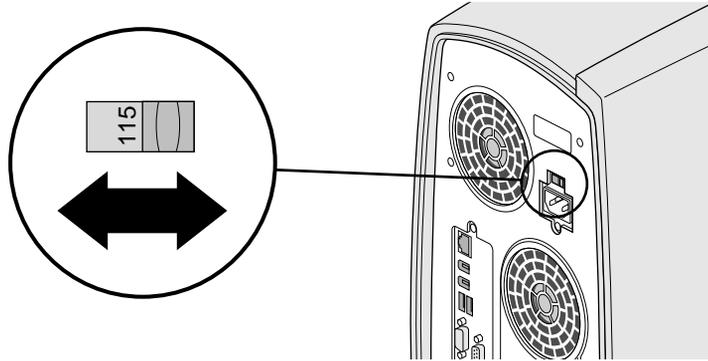

Figure 1-6 Checking the Voltage Switch Setting
5. Check the voltage switch above the power port on the back of the system to make sure it's set to the appropriate voltage setting for your power outlet, as shown in Figure 1-6.